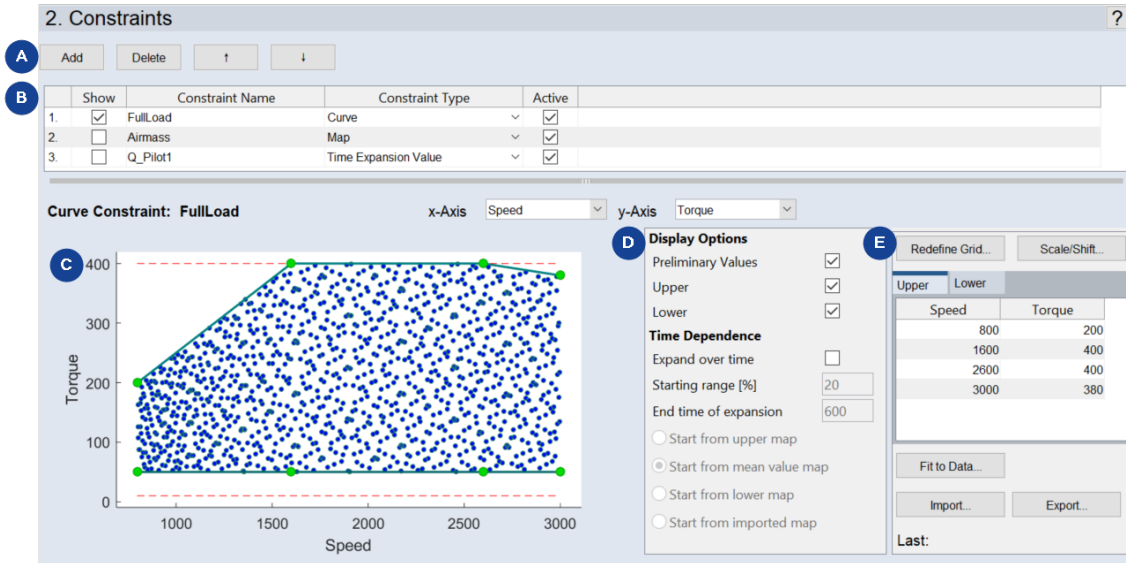

Fig. 7-3: ASCMO-DYNAMIC ExpeDes Step 2: Constraints (Type **Curve**)
1. Click **Add** to create a new constraint (see **A Fig. 7-3: above**).
If a completely specified constraint is selected in the list, the measurement points of the current experiment plan are displayed in a 2D (Curve, see Fig. 7-3: on the previous page) or 3D plot (Map).
The display of the preliminary values is controlled via the **Preliminary Values** checkbox (region **D** in Fig. 7-3: on the previous page). Only a part is shown to ensure a smooth operation. In addition, the thicker points of the grid with which the constraint of areas is controlled are also displayed.
2. In the constraint plot (region **C** in Fig. 7-3: on the previous page), click a point of the constraining line/area and hold the mouse button pressed.
The numeric values of the constraining points are shown in the tables on the right (**Upper** and **Lower** tabs; region **E** in Fig. 7-3: on page 67) and can be processed in these (both in terms of quantity and value); see section "Table for Displaying and Editing the Grid Nodes" below.
The grid nodes can be edited in the tables to the right of the plot (region **E** in Fig. 7-3: on page 67). One tab each is available for the upper and lower constraint.
- i. In the table area (region **E** in Fig. 7-3: on page 67), click **Export**.